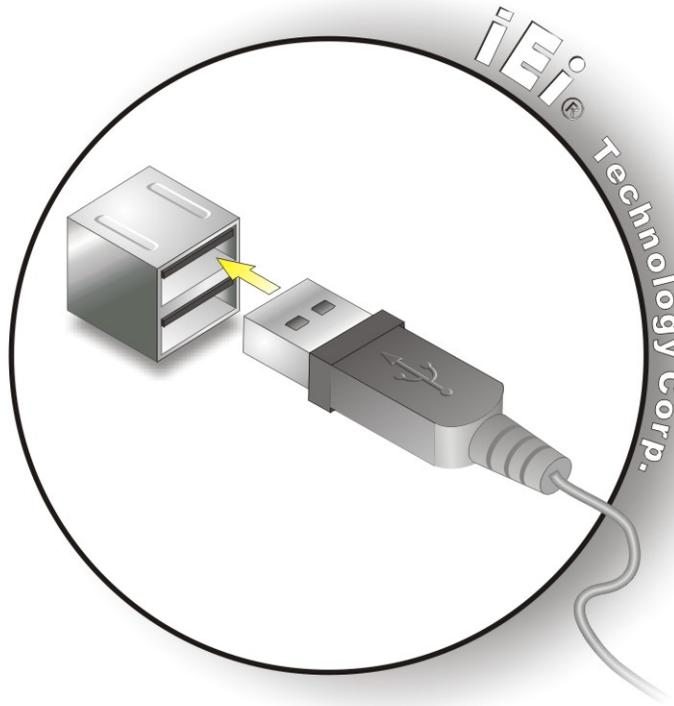

Figure 4-14: USB Connector
Step 2: Insert a **USB Series "A" plug**. Insert the USB Series "A" plug of a device into the USB Series "A" receptacle on the external peripheral interface. See Figure 4-14.